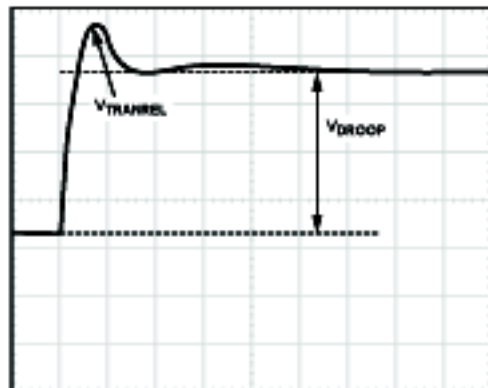

Figure 29. Transient Setting Waveform, Load Release
- For load release (see Figure 29), if $V_{TRANREL}$ is larger than the value specified by VR11, a greater percentage of output capacitance is needed. Either increase the capacitance directly or decrease the inductor values. (If inductors are changed, however, it will be necessary to redesign the circuit using the information from the spreadsheet and to repeat all tuning guide procedures).